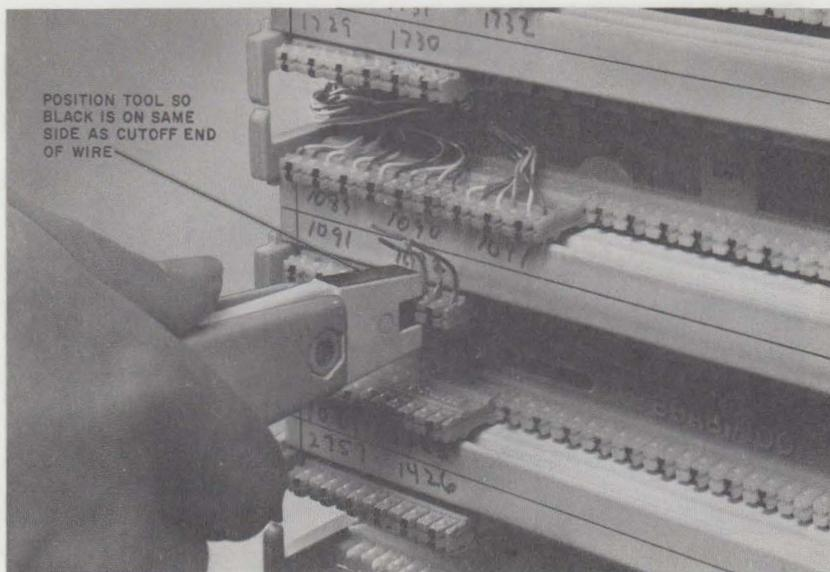

Fig. 24—Terminating Cross-Connect Wire
3.20 ♦Using the 788D3 tool with the head properly positioned (black side up), seat and cut off the excess wire as shown in Fig. 24. With the white side up, the tool will seat the wire only. The D impact tool can also be used for this operation (using the proper blade), **but the 788C1 or 788J1 should not be used.**